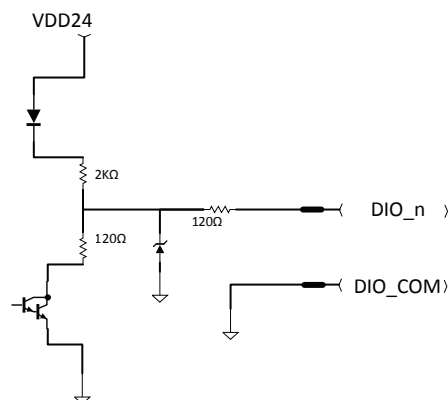

Figure 6
11.11.1 DIO outputs are compatible with IEC 61131-2 PLC high true PLC discrete inputs. Each DIO is pulled up to an internal 24V power supply by means of a 2.12K resistor which means the DIO is capable for delivering a high level output of 15V @ 3.3 mA (IEC 61131-2 compliant). No external power supply is required in this mode. Here is an example of a DIO being used as a PLC High True output. See *Figure 6*.